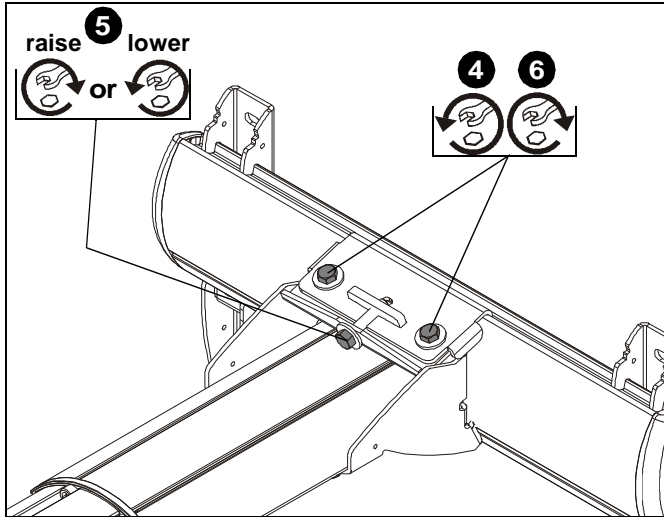

Figure 16
- Loosen two bolts on either side of pitch adjustment screw. (See Figure 16)
- Adjust pitch adjustment screw until mount is at desired pitch level. Turn clockwise to raise mounting level or turn counterclockwise to lower mounting level. (See Figure 16)
- Tighten two bolts on either side of pitch adjustment screw. (See Figure 16)